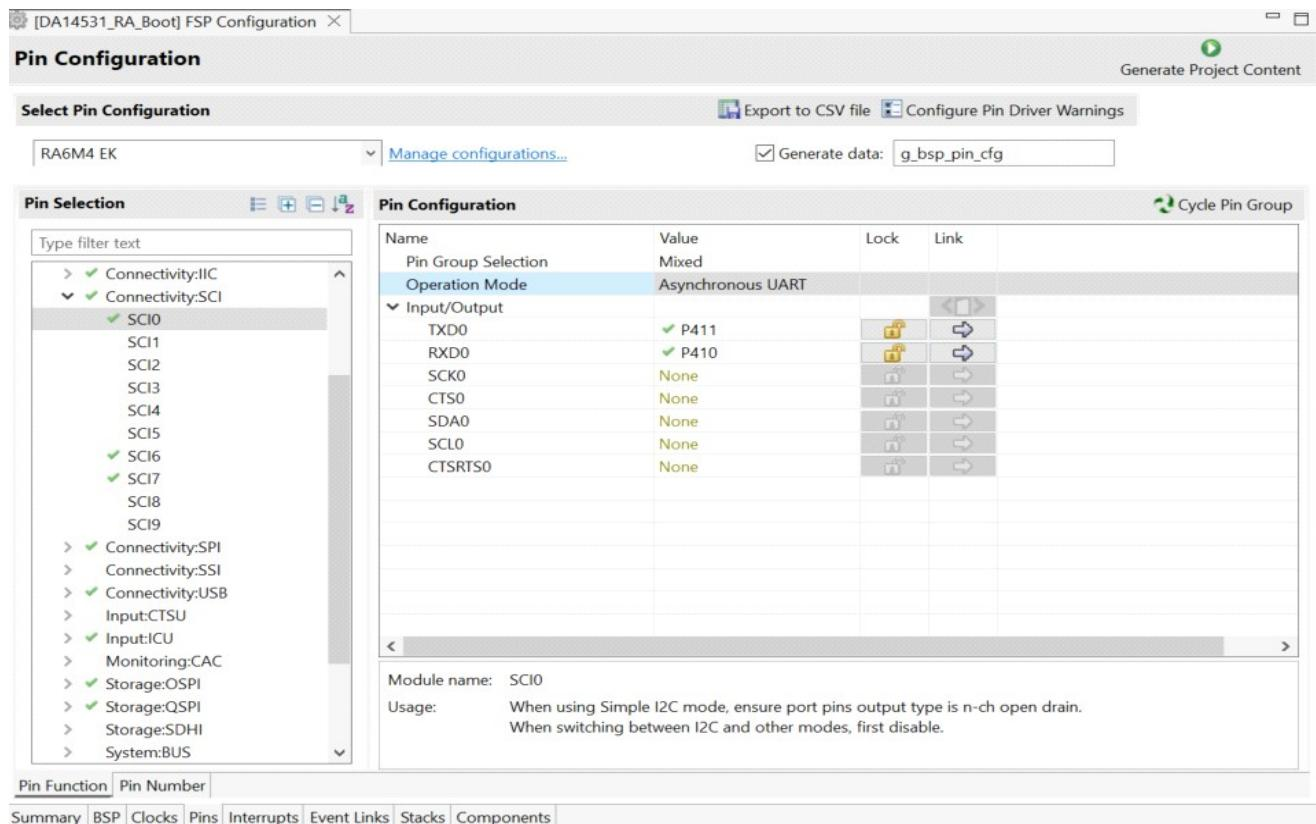

Figure 14. Pins Tab – Peripherals > Connectivity: SCI Group
15. Under the **Peripherals > Connectivity: SCI** group, select **SCI0**. Set the **Operation Mode** to *Asynchronous UART*. The **TXD0** and **RXD0** pins are automatically set to **P411** and **P410**, respectively (see Figure 14).